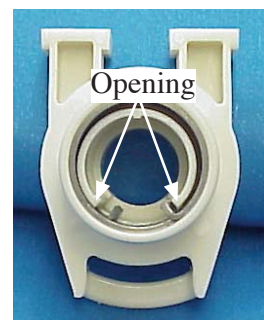

Figure 5
**Step 2.** Insert sprocket into the housing as shown in Figure 4. Make sure the spring tangs are inside the opening of the sprocket as shown in Figure 5.